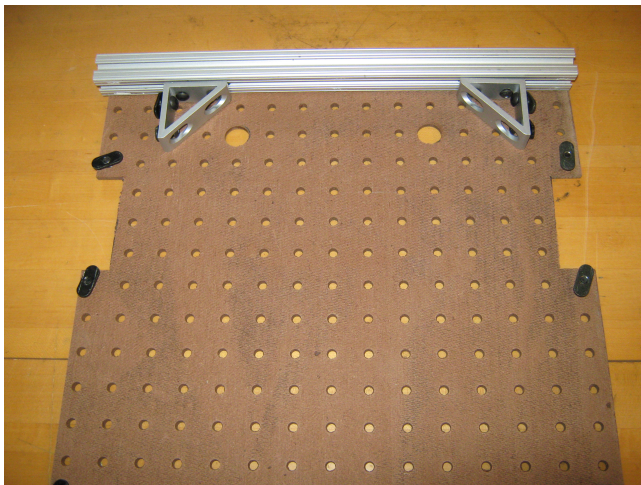

Figure 5: Slide 15" 80/20 and angle brackets onto front sliders. The placement of your sliders on the pegboard may look slightly different from that shown here.
4. Slide the 15'' beam of 80/20 onto the two front sliders, as shown in Figure 5. Slide two of the angle brackets onto the 80/20, placed so that their hypotenuses are facing inwards.